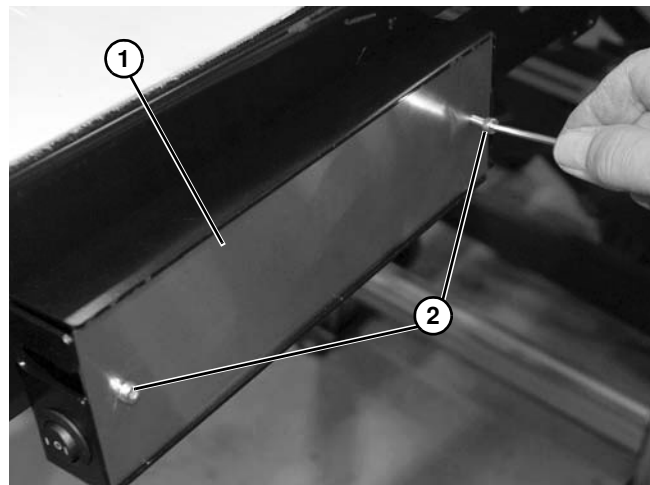

Figure 36
6. Install cover (**Figure 36, item 1**) with two screws (**Figure 36, item 2**).